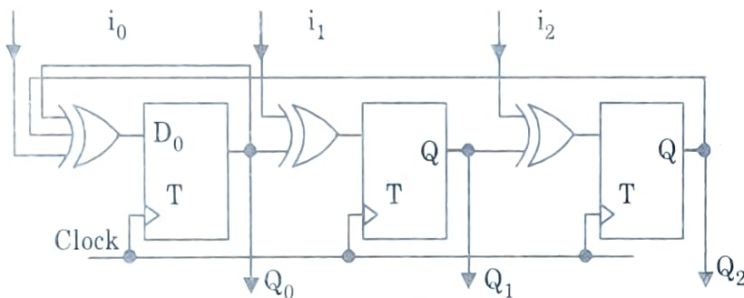

Fig. 5.16.1. Built-in-test-linear feedback shift register.
1. The LFSR model is that of a finite state machine comprising storage elements and modulo two adders connected in feedback loops as shown in Fig. 5.16.1.